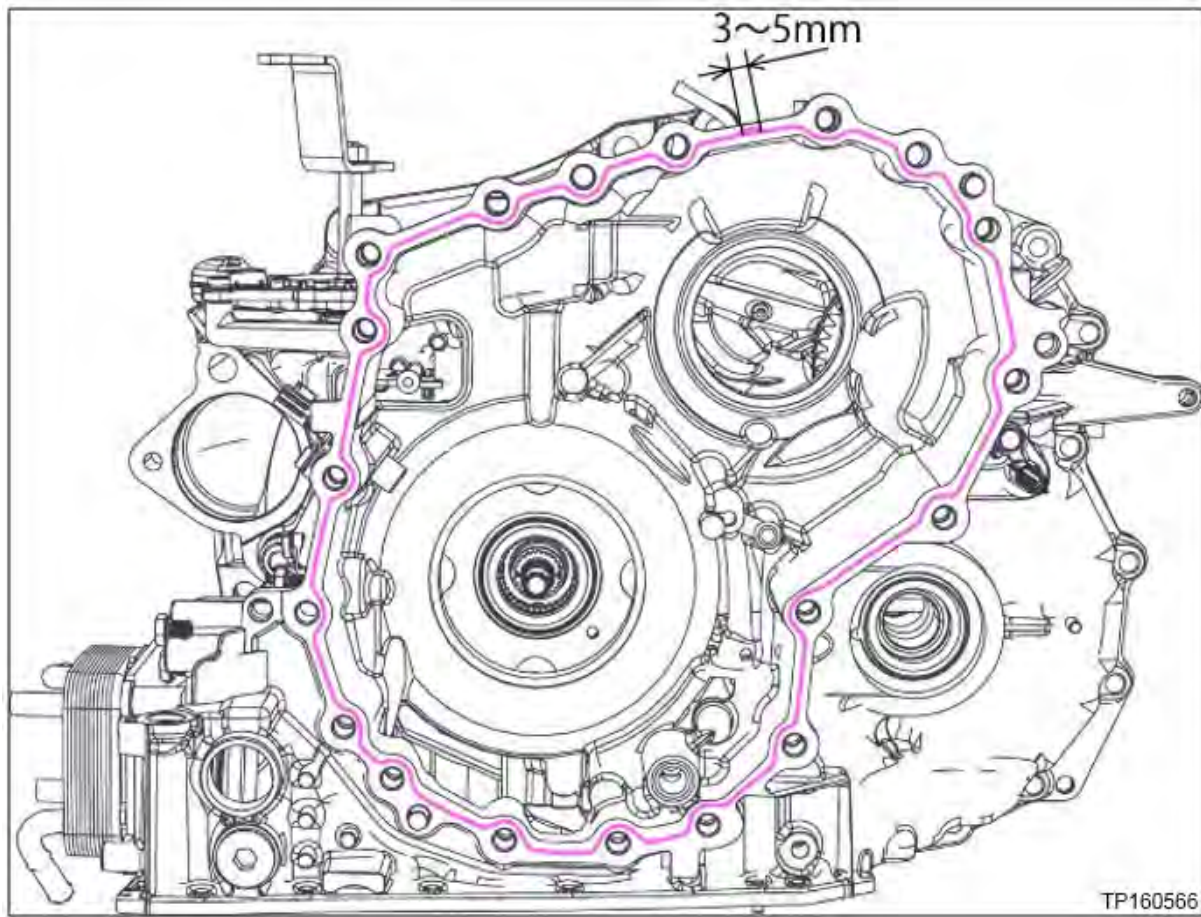

Figure 99
73. Apply one continuous 2.0 mm diameter bead of sealant along the center of the CVT case side mating surface (Figure 99).